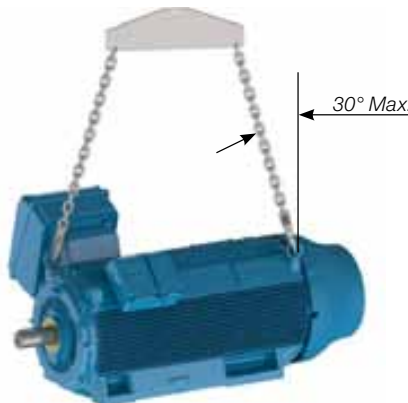

Figure 4.5 – Maximum resulting angle for horizontal HGF motors
- For HGF motors, as shown in Figure 4.5, the maximum resulting angle should not exceed 30° in relation to the vertical axis.